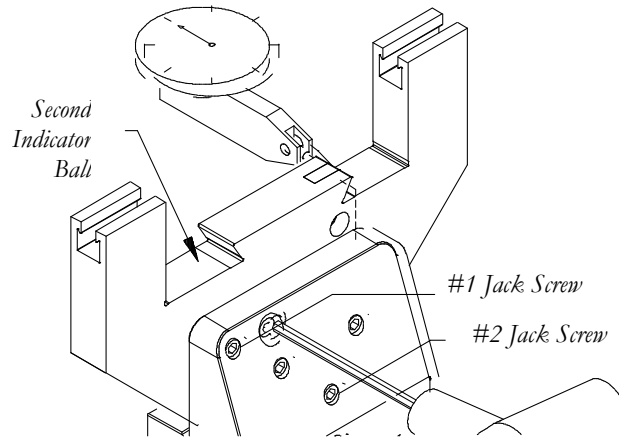

Figure 4
(A). Remove the RH01/TD01 from the truing station. **(B).** Place it upright, on the surface plate as shown in Fig. 4. **(C).** Position the indicator ball on RH01, down on the lower dovetail surface directly vertically in-line with the pivot ball in the TD01. **(D).** Zero the indicator. **(E).** Move the indicator ball over to the second position as shown in Fig. 4.
(F). Turn the cam as shown in Fig. 4 until the indicator returns to it's zero reading. The third-axis is trued.